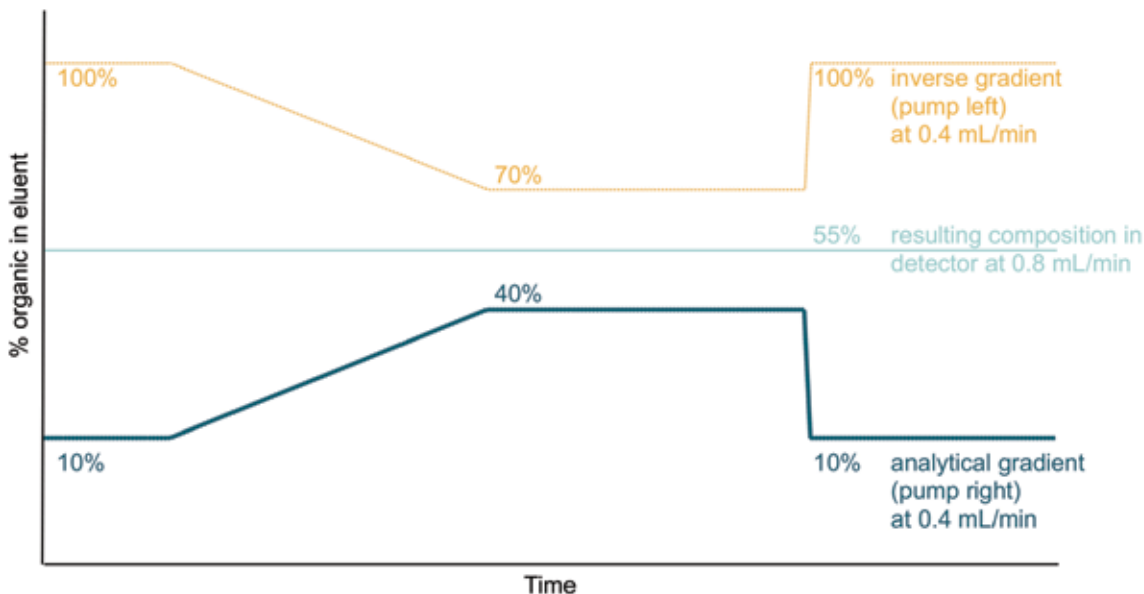

Figure 6. Option 2: Maximize Organic Composition.
- What it is: The make-up flow is shifted to higher organic content while the gradient shape of the inverse gradient is kept constant (Figure 6). The flow rate is the sum of both flow paths, so the flow rate to the detector is double that for just the analytical gradient.